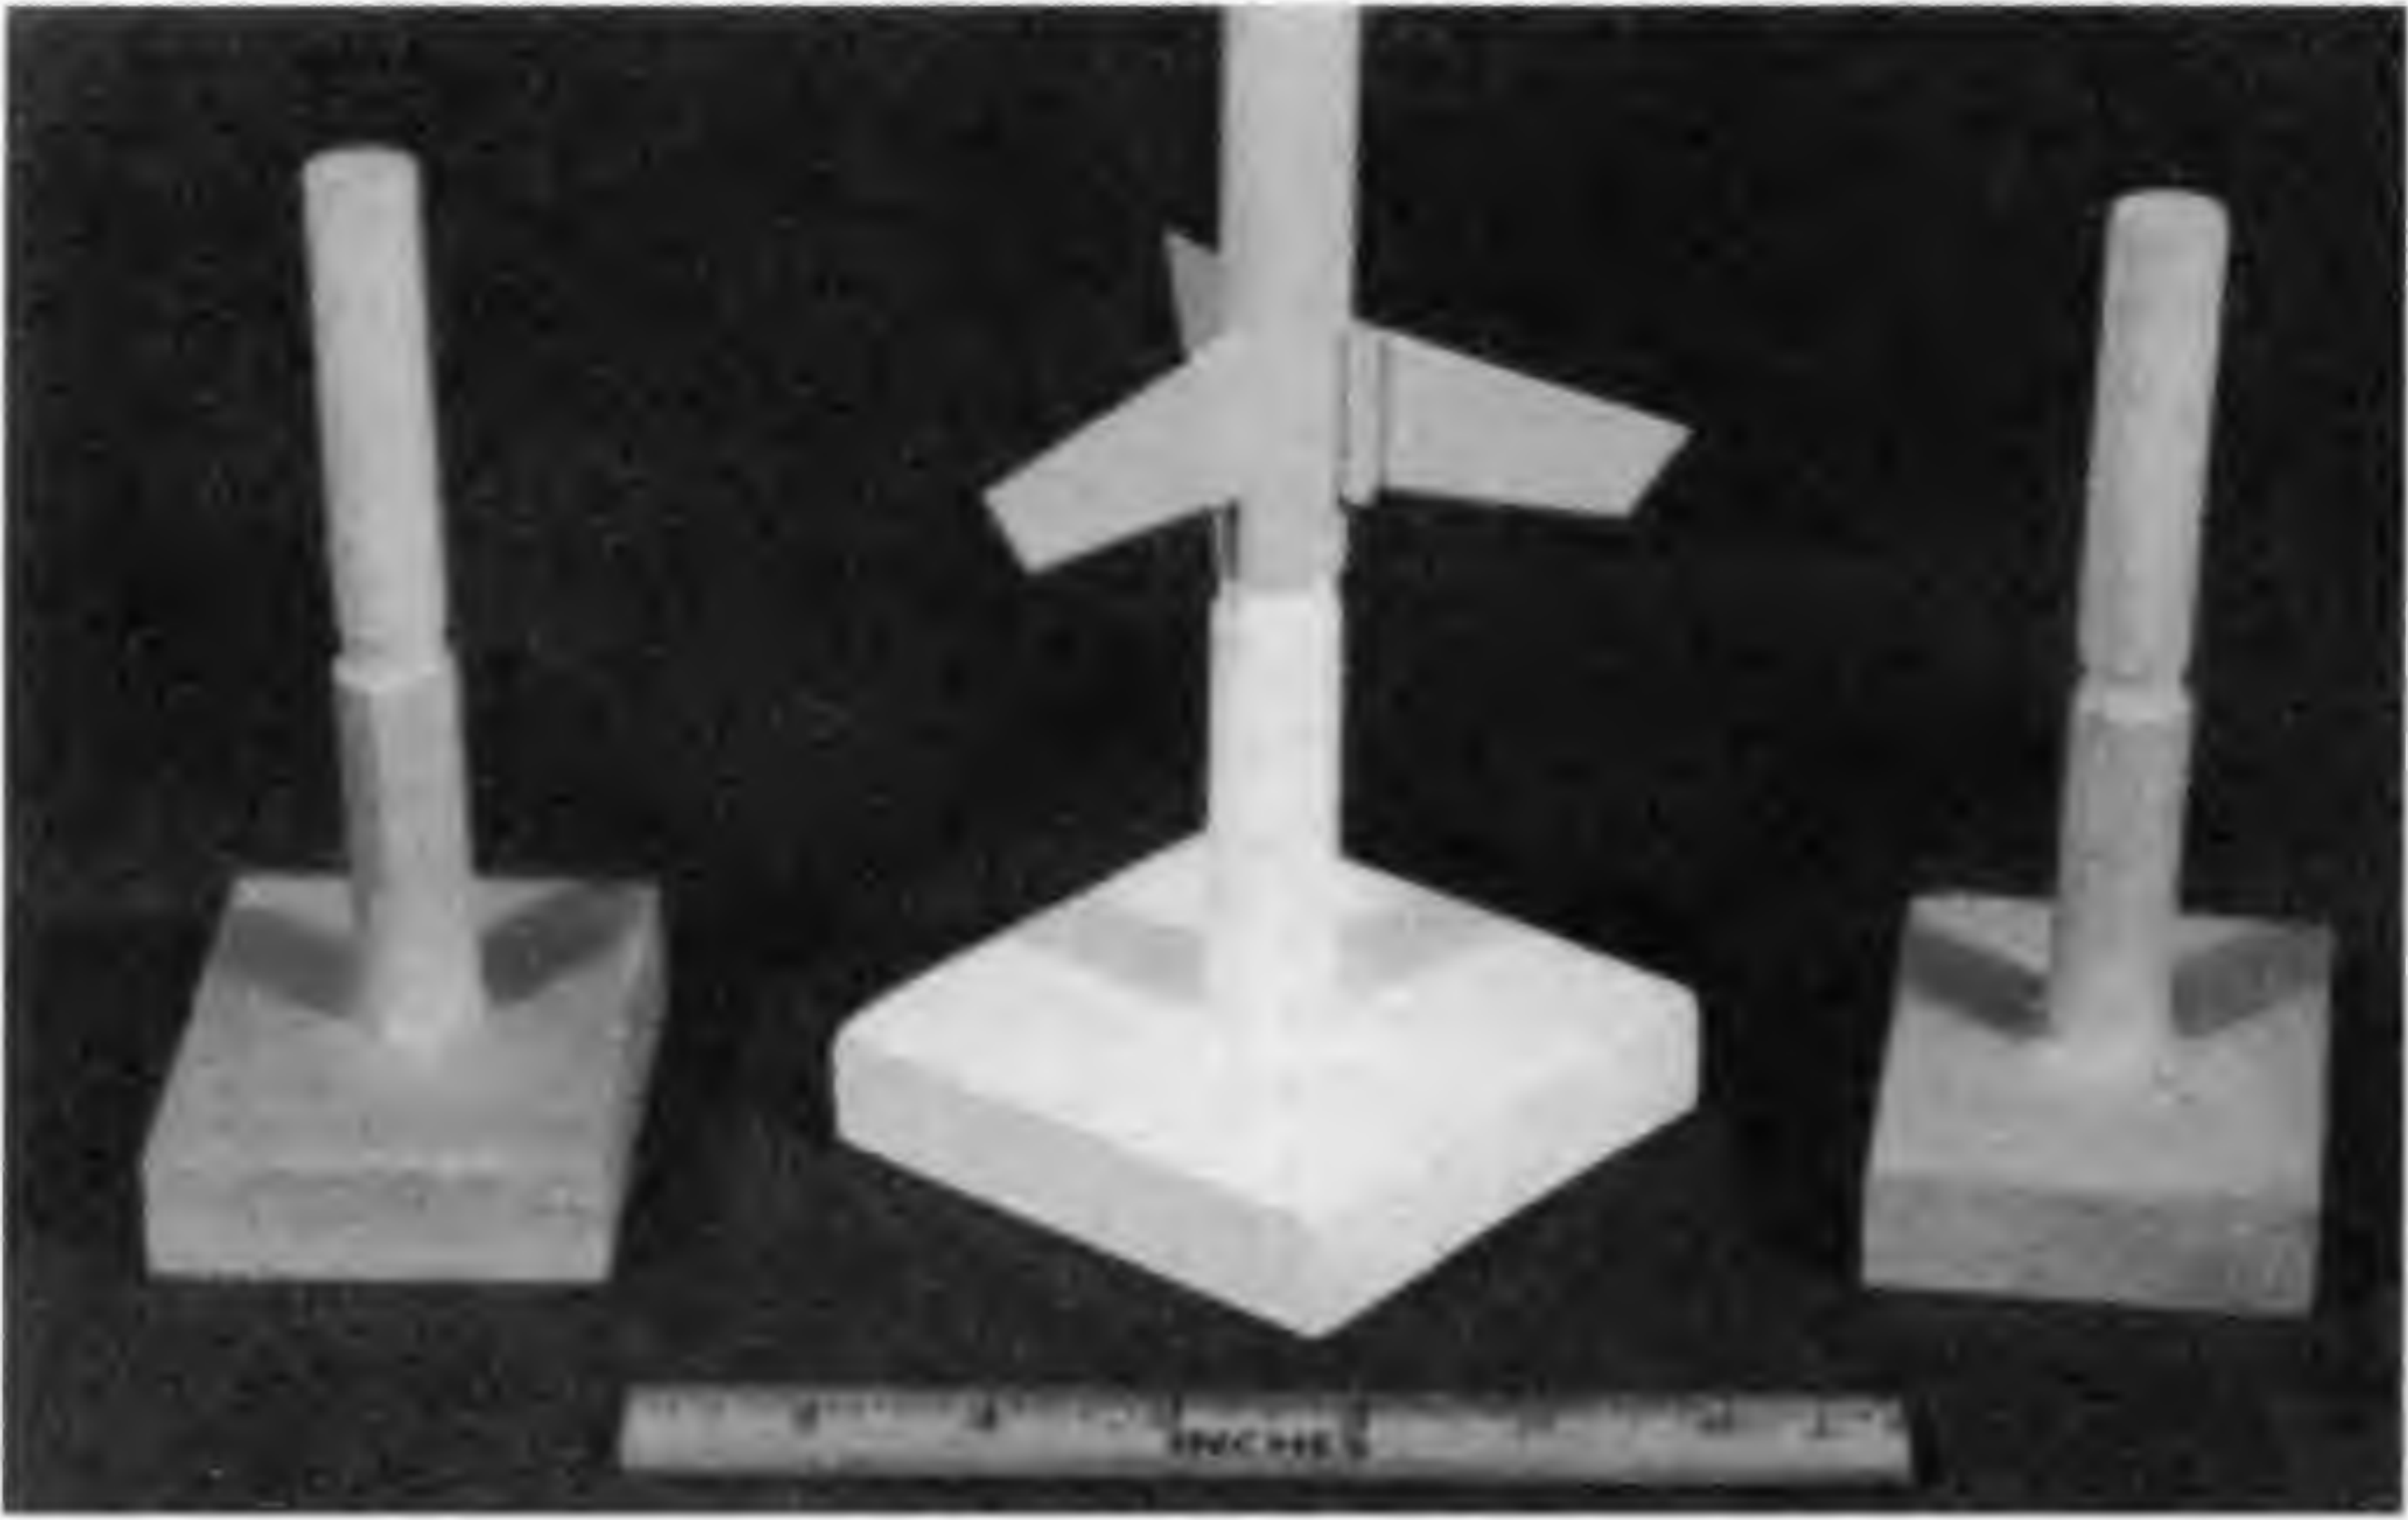

FIGURE 3-5 The workshop spike can be made from wood or plastic. It is designed to hold the model vertically.
*Spike*—Wendell H. Stickney made the first rocket spike in 1961, and I still have it and use it. A spike holds a model rocket vertically during construction or display. The easiest way to make a spike is to glue an expended motor casing to a block of wood. However, you can make a better one with a lathe to help out. A typical spike is shown in Figure 3-5. It's longer than a regular motor casing and will hold a model rocket high enough to clear any swept-back fins that extend beyond the rear end of the body tube. A spike will increase your workbench space because it holds a model vertically.